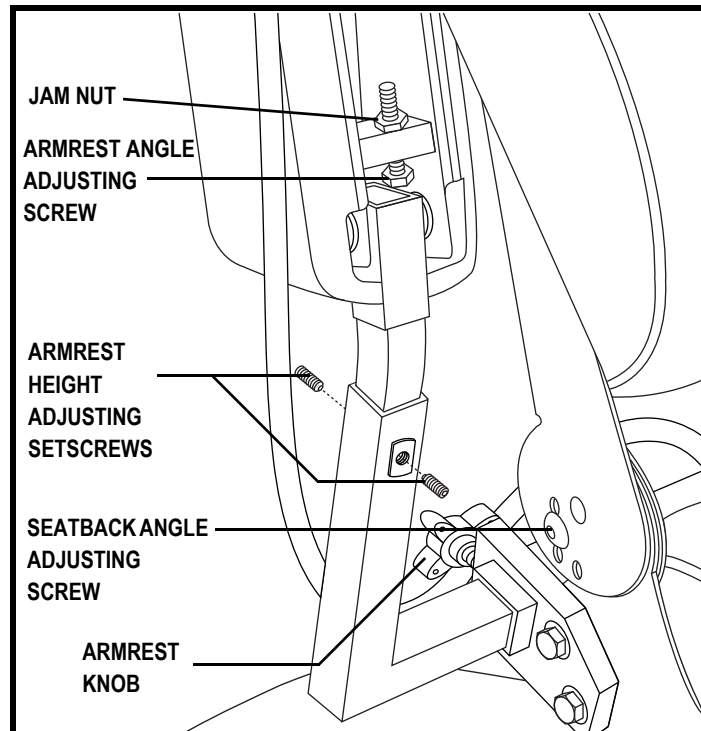

Figure 16. Seatback and Armrest Adjustment
1. Remove the adjusting screws from each seat hinge. See figure 16.
1. Locate the two armrest knobs on each side of the armrest receiver bracket. See figure 16.
1. Lift the armrest straight up so that it is perpendicular to the floor. See figure 16.
1. Loosen the two setscrews located on the armrest receiver. See figure 16.